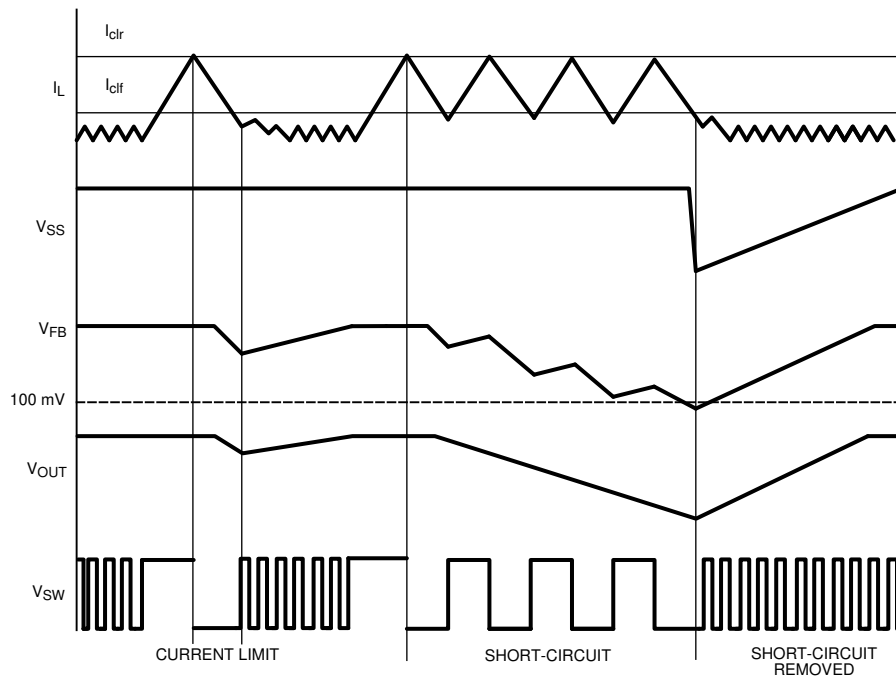

Figure 7-1. Current Limit Conditions
A current limit condition will cause the internal soft-start voltage to ramp downward. After the internal soft-start ramps below the feedback (FB) pin voltage (nominally 0.6 V), FB will begin to ramp downward, as well. This voltage foldback will limit the power consumption in the device, thereby protecting the device from continuously supplying power to the load under a condition that does not fall within the device SOA. After the current limit condition is cleared, the internal soft-start voltage will ramp up again. Figure 7-1 shows current limit behavior with V_{SS} , V_{FB} , V_{OUT} , and V_{SW} .